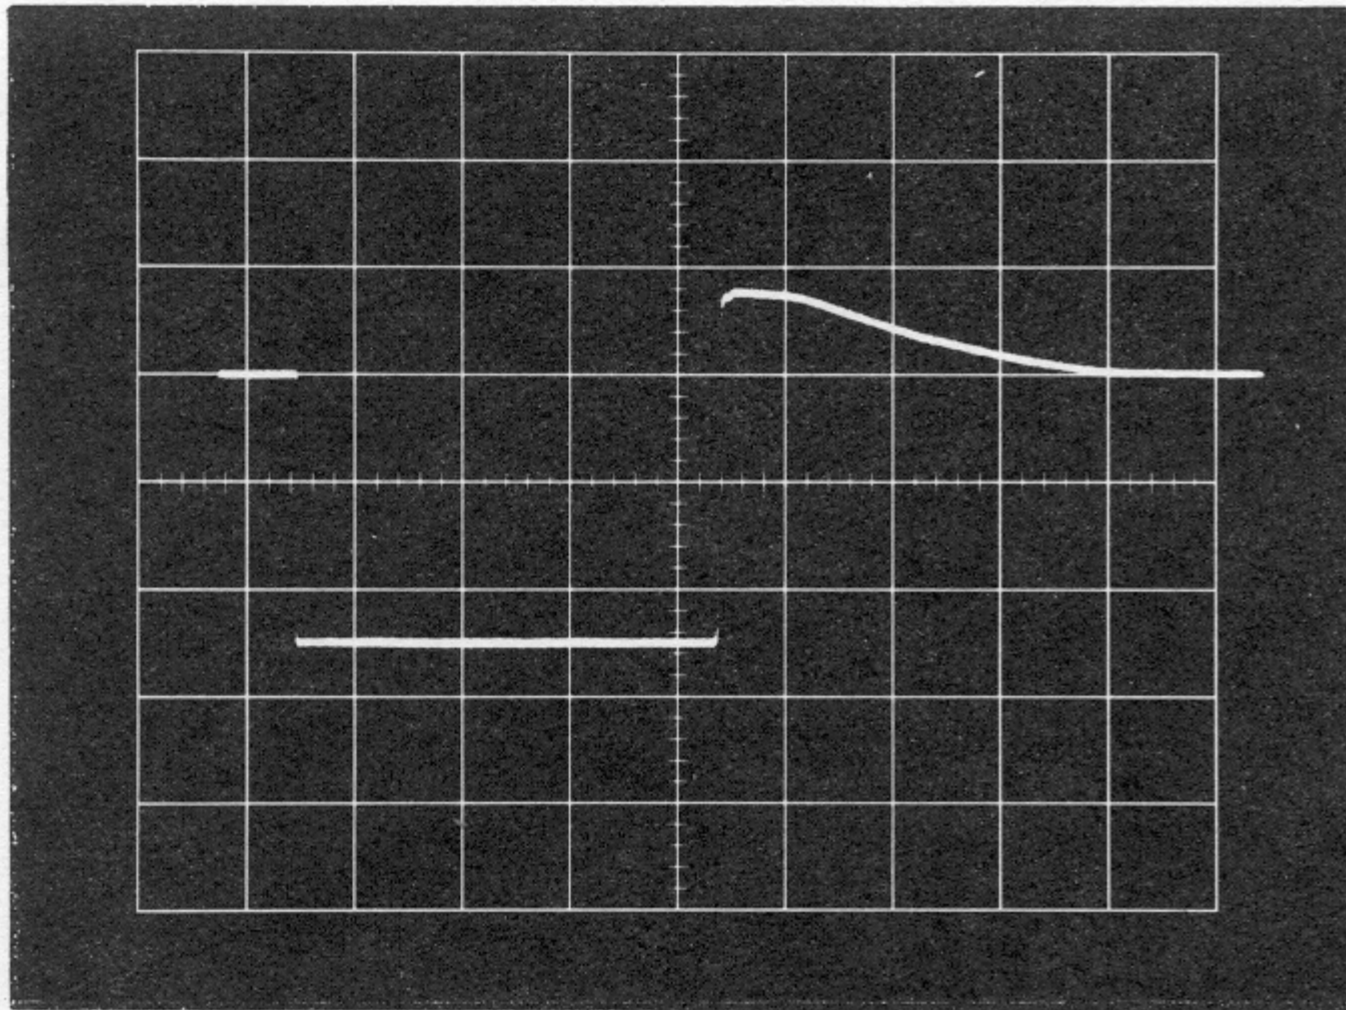

Fig. 5-3. Delayed Pulse amplitude check, SN 3460-up.
d. Position the display vertically so it is similar to Fig. 5-3. The vertical amplitude should be approximately 260 mV.
d. Center the display with the Sampling Unit DC Offset control and measure the amplitude of the display. If the display is not similar to the display in Fig. 5-3, or is not stable, remove the right side panel of the Type 661 and adjust the Delayed Pulse Bias control, R990, for a correct, stable display (see step 21 of the Calibration Procedure).